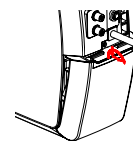

Fig. 1
1. Press fastener to remove the battery cover plate on the back of the UPS (Fig. 1).
4. Close the battery cover (Fig. 1).